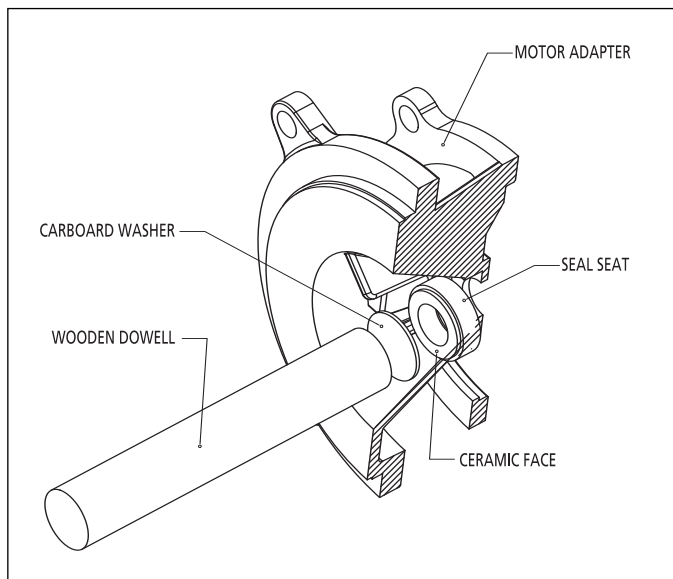

Figure 5 - Seal Seat Installation
3. Wet the rubber portion of the new seal seat (part of Ref. No. 6) with a light coating of soapy water. While wearing clean gloves or using a clean light rag, press seal seat squarely into adapter recess. Use the cardboard washer (usually supplied with new seal) to place over the polished ceramic surface and use a piece of pipe or dowel rod to press in firmly but gently (See figure 5). Avoid scratching the ceramic face, usually white.